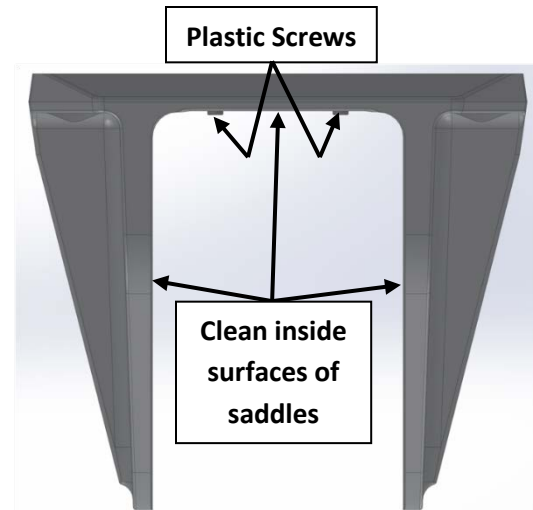

FIGURE 14 - SADDLE CLEANING
- 2) Check that each saddle contains 4 plastic screws which will insure an adhesive gap of .080" (2 mm) on top surface of hull as shown in Figure 14.
- 3) Thoroughly clean with alcohol or acetone the inside surfaces of gyro foundation saddles to remove any contaminants as shown in Figure 14. Use new paper towels for cleaning, not shop rags.